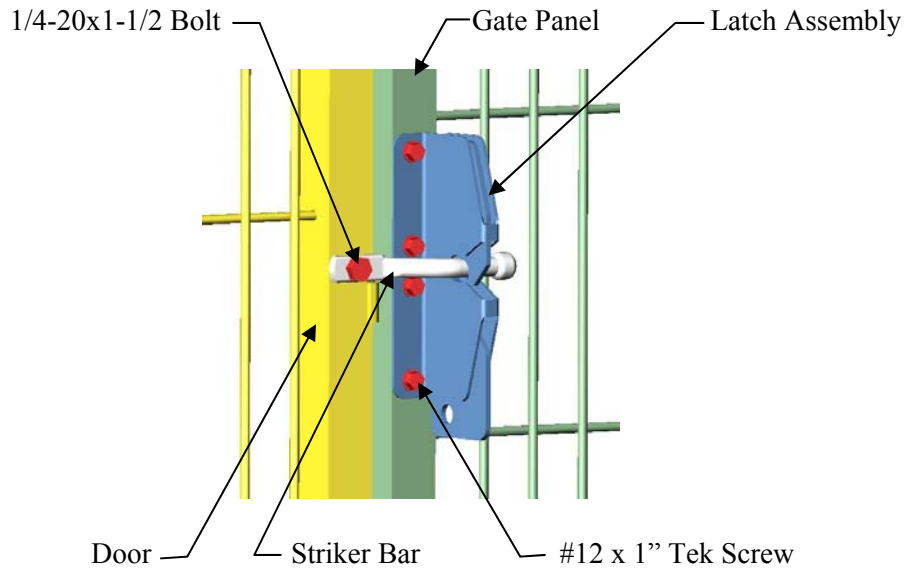

Figure 20
1. Install the Striker Bar to the pre-drilled Door using a 1/4"-20 x 1-1/2 Hex Bolt and 1/4"-20 Nylox Nut (**Figure 20**). Position the Striker bar into a horizontal position.
2. Hold the Latch Assembly in place against the Gate Panel and close the Door. Make sure to center the Striker Bar within the latch pocket and latch looks straight. Using (4) 1" Tek Screws, attach the Latch Assembly to the Gate Panel (**Figure 20 & 20A**).